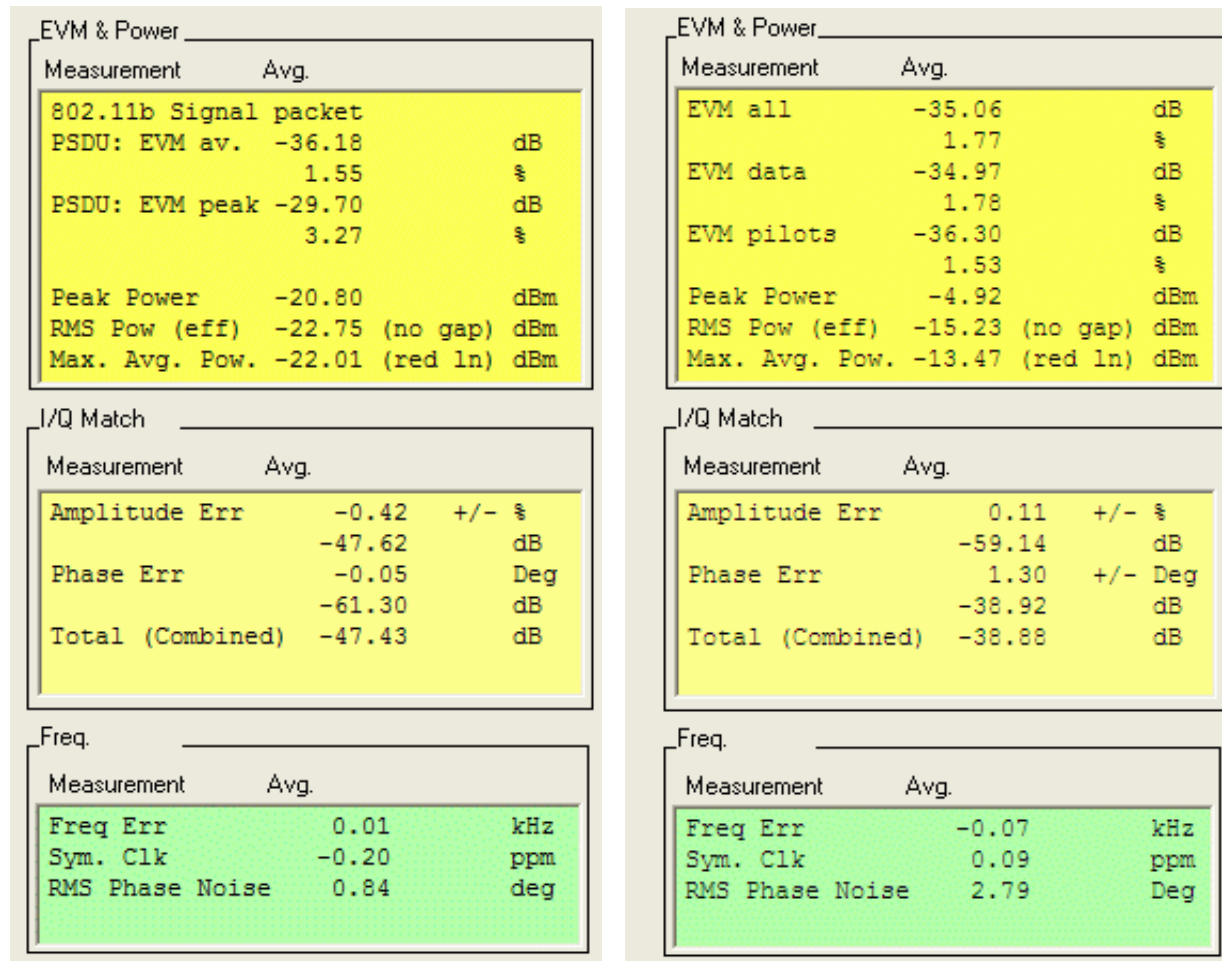

Figure 3-16. EVM & Power Measurements Result Window (802.11b, left and 802.11a/g, right)
This window shows both the EVM and power measurements for 802.11 b (left window) and for 802.11a/g (right window) signals. Selecting the following menu items from the Left (Sym Const, Spectral Flatness, LO (DC) Leakage, Phase Noise (PSD), Phase Noise (Time), Power On Ramp, Power Down Ramp) and from the Right (Freq. Error, EVM vs. Carrier (OFDM), EVM vs. Symbol, 802.11.b Eye Diagram) drop-down menus displays the EVM and Power Measurement window, as shown in Figure 3-16.